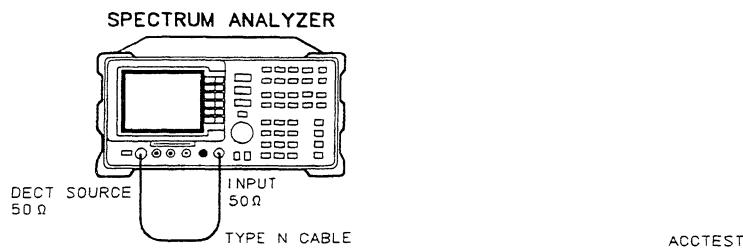

Figure 9-11. Frequency Accuracy Test Setup
1. Connect the 23 cm BNC cable between the DECT SOURCE $50\ \Omega$ and INPUT $50\ \Omega$ connectors on the spectrum analyzer, using the N(m) to BNC(f) adapters. Refer to Figure 9-11.